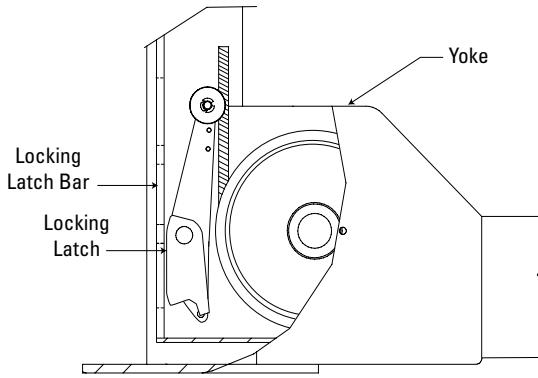

Fig. 24
- K. Actuate air valve and check latch operation on all four corners. The locking latches should pull in beyond yoke ends to clear the latch bars located in all four columns, Fig. 24.**